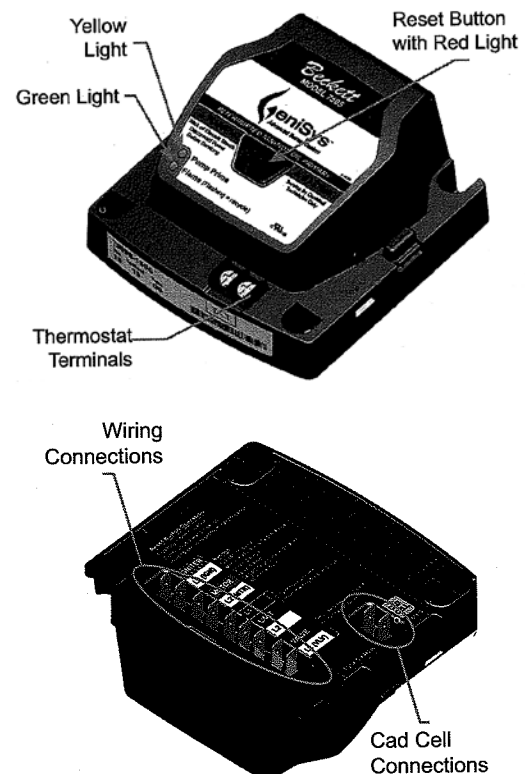

Figure 28: GeniSys 7505 Oil Primary Terminals, LED's and Reset Button
a. GeniSys 7505 Control Features, see Figure 28
- At burner start up, click the reset button while the igniter is till on. This will transition the control to a dedicated Pump Prime mode, during which the motor, igniter, and valve are powered for four (4) minutes. The yellow light will be on.
- At the end of four (4) minutes, the yellow light will turn off and the control will automatically return to standby mode.